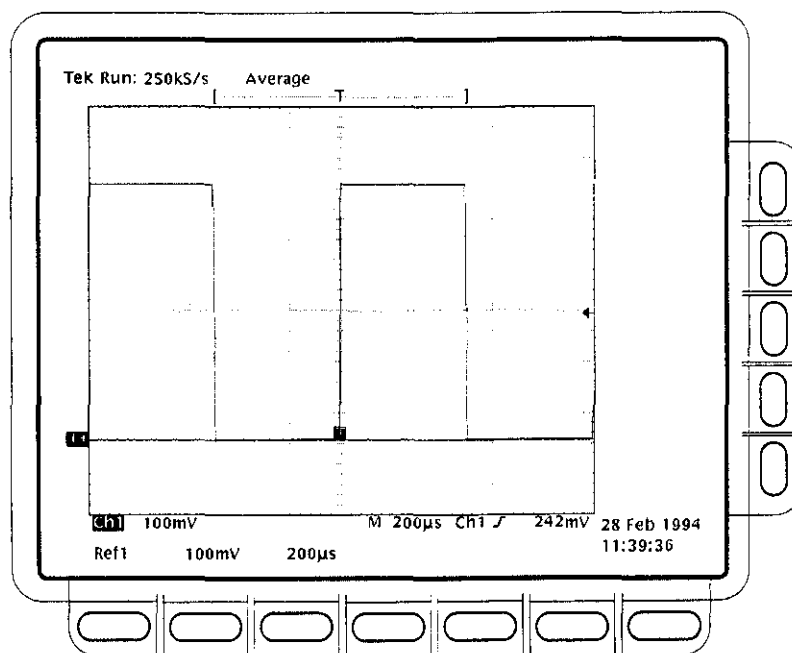

Figure 1-24: Measurement of Probe Compensator Amplitude
- f. Press **CLEAR MENU** to remove the menus from the display. See Figure 1-24.